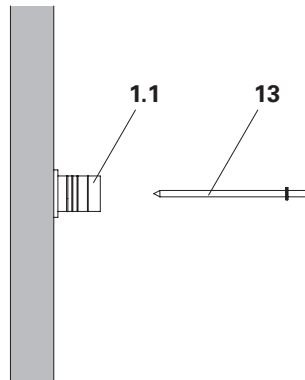

Fig. A1.02
1. Fix the nail plug (**1.1**) to the formwork with a double-head nail L = 65 mm (**13**). (Fig. A1.02)